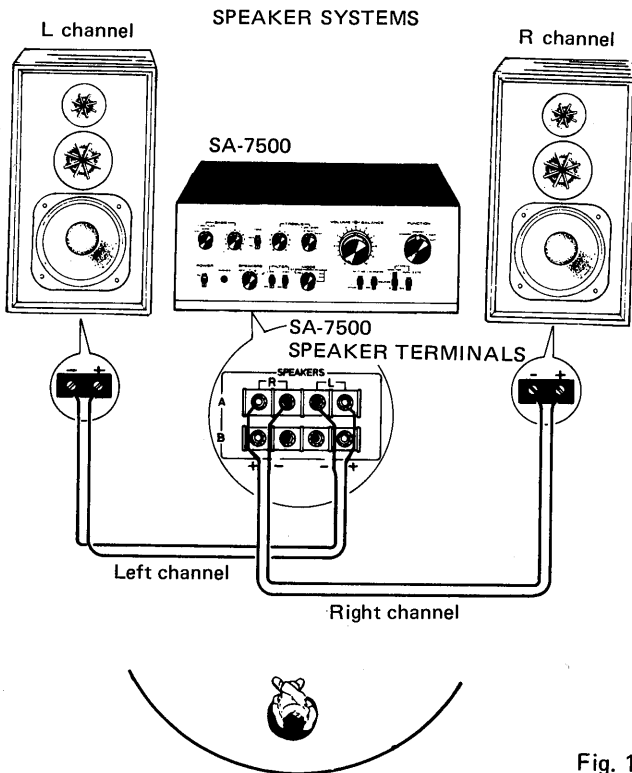

Fig. 1
- As shown in Fig. 1, connect the right channel (as viewed from the front) speaker to the R terminals, and the left channel speaker to the L terminals.